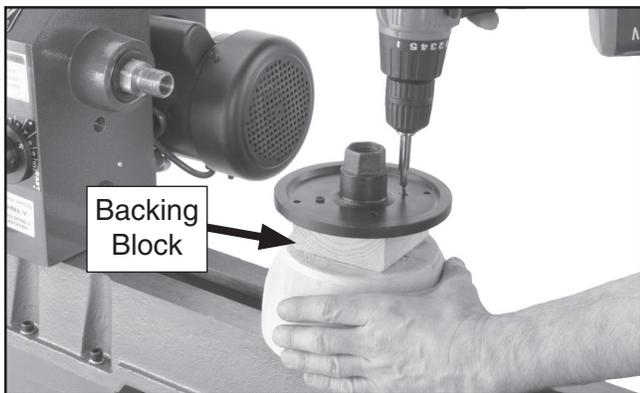

Figure 40. Example of mounting faceplate to a backing block.
1. Make the backing block (**Figure 40**) from a piece of scrap wood that is flat on both sides.